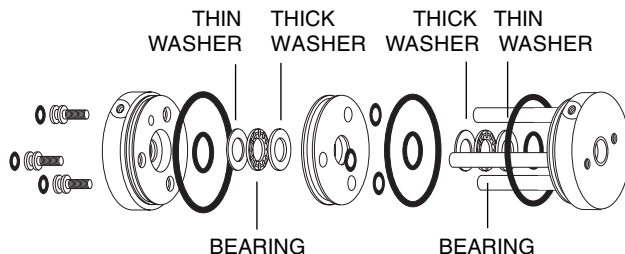

Figure 6: O-ring locations
11. Place the thrust race washers and bearing in the male end cap. (The thin washer goes in first, as in **Figure 6**.) Slide the subassembly onto the pins of the male end cap with the square end down.
13. Place the thrust race washers and bearing in the female end cap. (The thin washer goes in first, as in **Figure 6**.) Press the end cap into the cylinder, making sure that the air inlet hole lines up with the one in the male end cap.